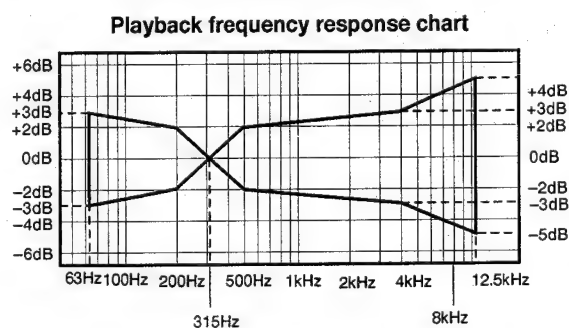

Fig. 8
3. Assure that the frequency response is within the range shown in Fig. 8 for both Lch and Rch.